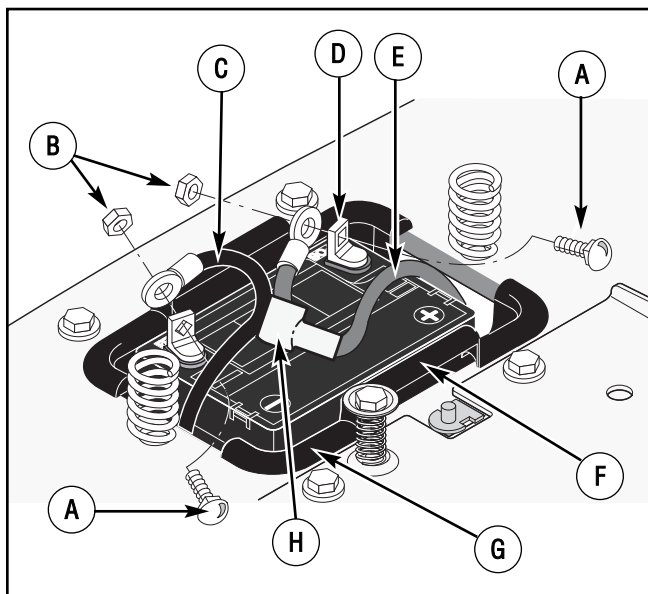

Figure 9: Battery
1. Check the top and the side of the battery for the location of the **battery date** (Figure 9).
2. Fasten the **red cable** and **terminal cover** (if equipped) to the **positive (+) terminal** with the fasteners as shown (Figure 9).